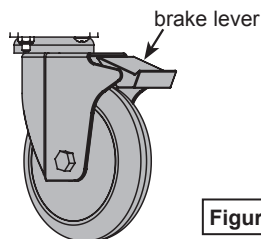

Figure 11
1. To lock the wheel rotation, press the brake lever. **Figure 11.**